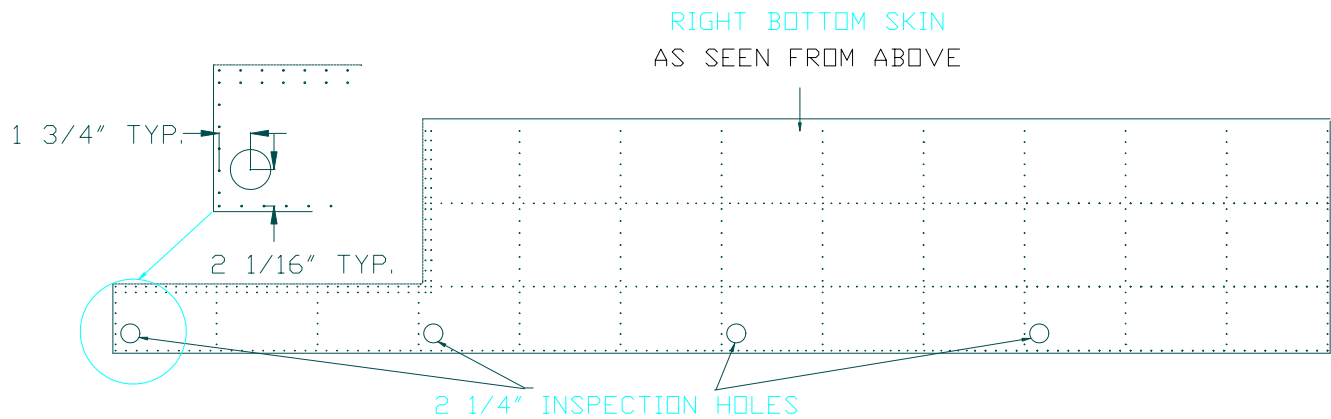

Figure 8.23.1
1) In the right Bottom Skin cut out four inspection holes as in Figure 8.23.1.